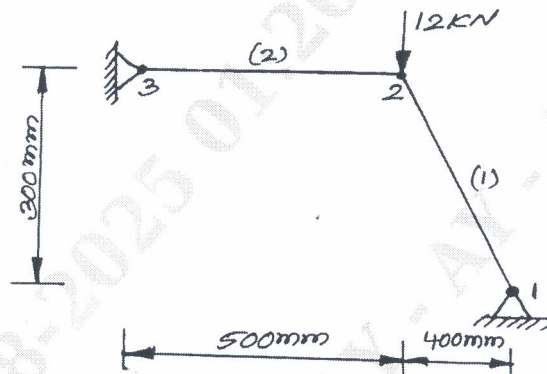

Fig Q4(b)
- b. Solve for displacement at each node and stresses in each element as shown in Fig Q4(b). Take  $A = 200 \text{ mm}^2$  and  $E = 2 \times 10^5 \text{ N/mm}^2$ .